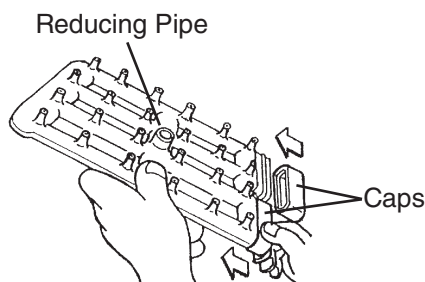

**Fig. 40**
- 7) Disconnect the discharge tube from the spray assembly, then slide out the spray assembly. See Fig. 40.